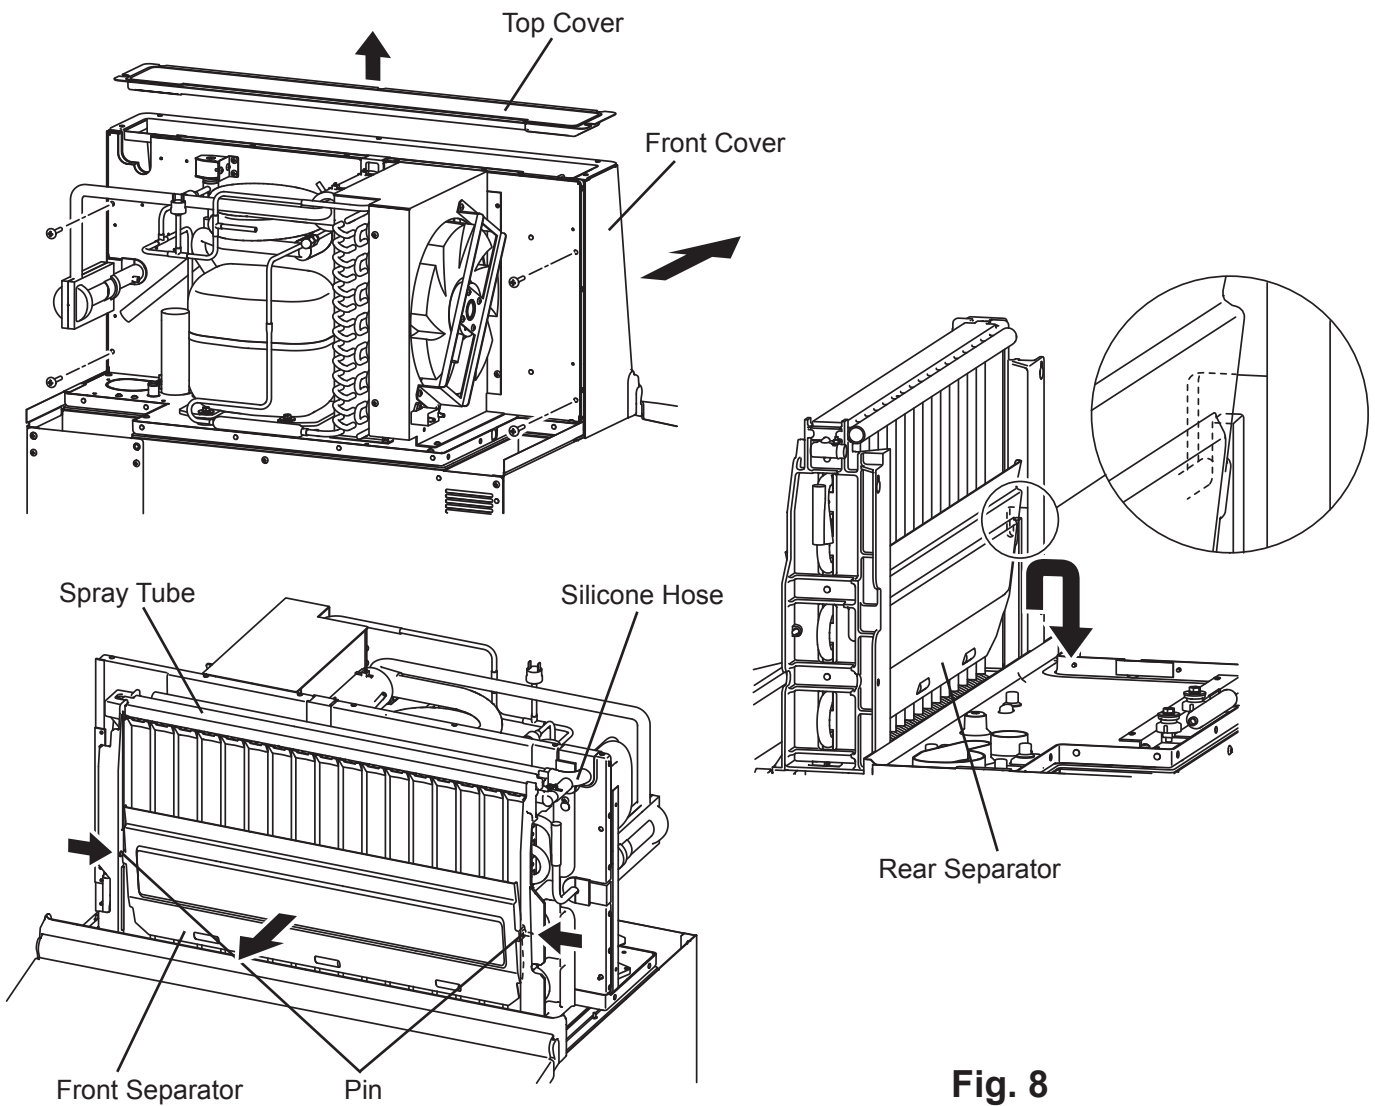

Fig. 8
- 3) Remove the top cover and front cover. See Fig. 8.
- 5) Remove the front separator by pushing the pins inserted into both sides of the evaporator bracket toward the center. See Fig. 8.
- 6) The rear separator is hooked on the groove in the evaporator bracket. Remove the rear separator by lifting it up and down. See Fig. 8.